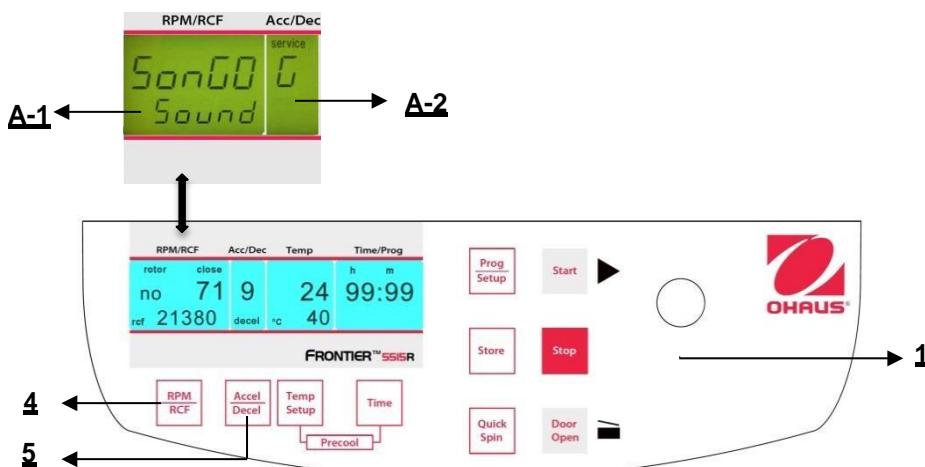

Figure. 35
Proceed as described under point 4.1.2 to enter this program mode and then press the key "Accel/Decel" (5). In the display "Acc/Dec" (A-2) the word "Service" flashes. Now select the letter "G". with the adjusting knob (1). As a result, in the display "RPM | RCF" (A-1), the word "Song/Sound" appears. After pressing the key "RPM | RCF" (4), you can select a song with the adjusting knob (1). (See figure 35).